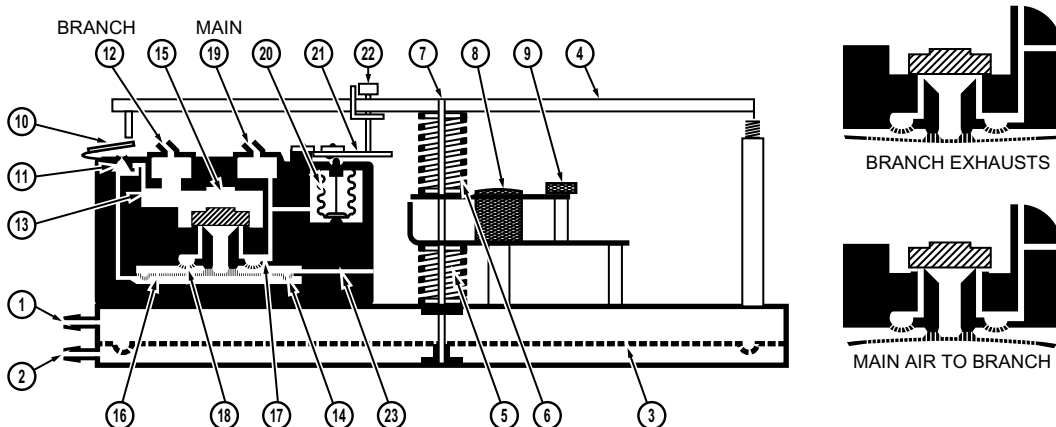

Fig. 4. Schematic Cutaway of the PP904A1001 and PP904A1019.
The PP904A1001 or PP904A1019 (Fig. 4) regulates static pressure by placing a reference pressure on one side of the diaphragm and static pressure on the other. For direct acting operation, the reference pressure, reflecting the pressure in the controlled space, is connected to the lower connector (2); a duct head assembly located in the duct, which senses the static pressure, is connected to the top connector (1). For reverse acting operation the reference pressure is connected to the top connector and the static pressure to the bottom connector.